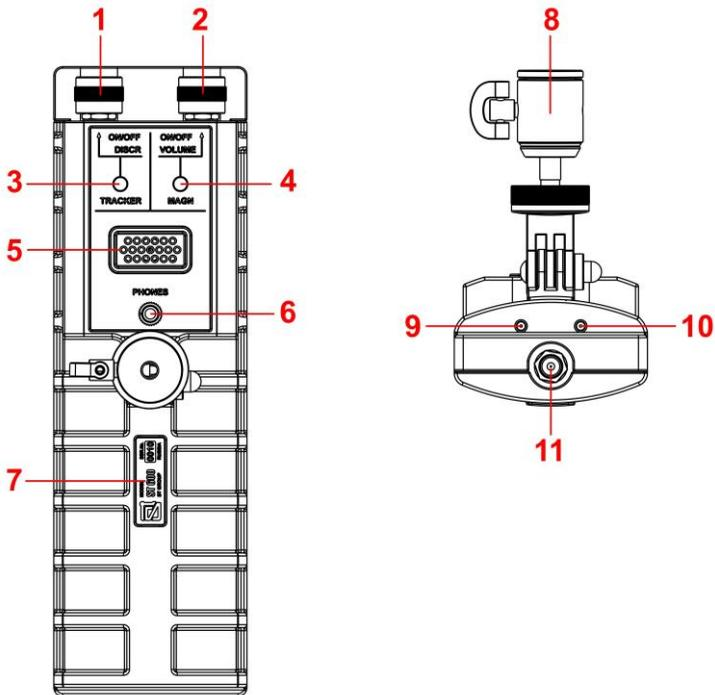

fig.2
The numbers in fig.2 denote:
An adjustable bracket is installed on the device body (fig.2, pos.8). The bracket allows you to fix the main unit on the telescopic handle (fig.1, pos.5) and fix it in the desired position relative to the examined surface.
Power supply of the main unit and the generator is carried out from built-in batteries. Fully charged batteries ensure continuous operation of the main unit and the generator for 7 hours. The power control of the main unit is carried out using two LEDs (Fig. 2, p.9 and p.10). With a fully charged battery in operating mode, both LEDs do not glow. When the battery is discharged, a red LED lights up (Fig. 2, p. 9). The battery of the main unit is charged in the off state using the charger (Fig. 1, p. 4) while the green LED is lit (Fig. 2, p.10), which goes out when charging is complete. Full charging time of the main unit is not more than 2 hours.
1. Turn on the main unit by switch (fig.2, pos.2). The device automatically switches to the “DETECTOR” mode. The «MAGN» indicator will light (fig.2, pos.4).
2. Connect headphones to the main unit (fig.2, pos.6).
4. Adjust the headphone volume by switch (fig.2, pos.2).